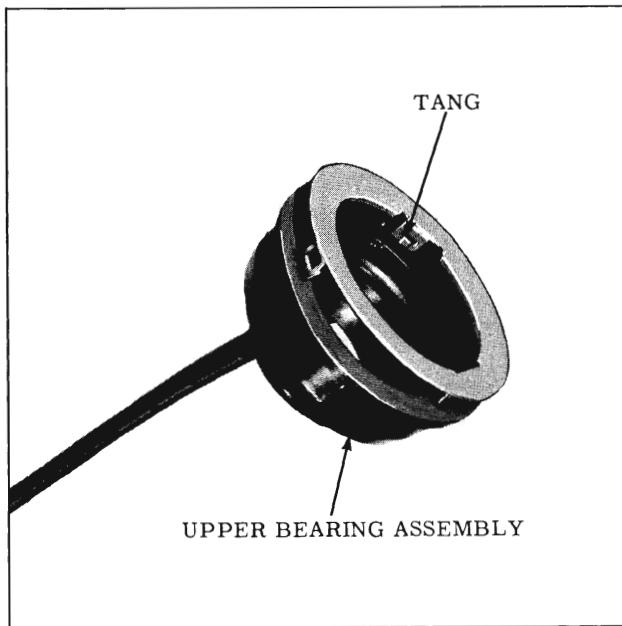

Fig. 4-76 Horn Contact Removal
3. Pry bearing from retainer, then pry horn contact from bearing just enough to expose horn wire tang. (Fig. 4-76)